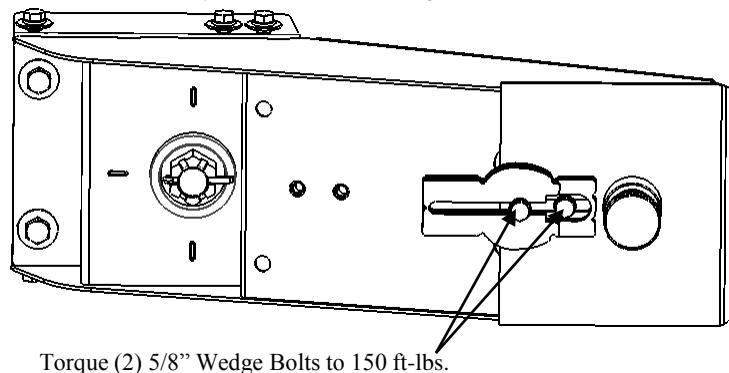

Figure 11
9. Torque (2) 5/8" Wedge Bolts to 150 ft-lbs (figure 11). A thin walled socket may be necessary.